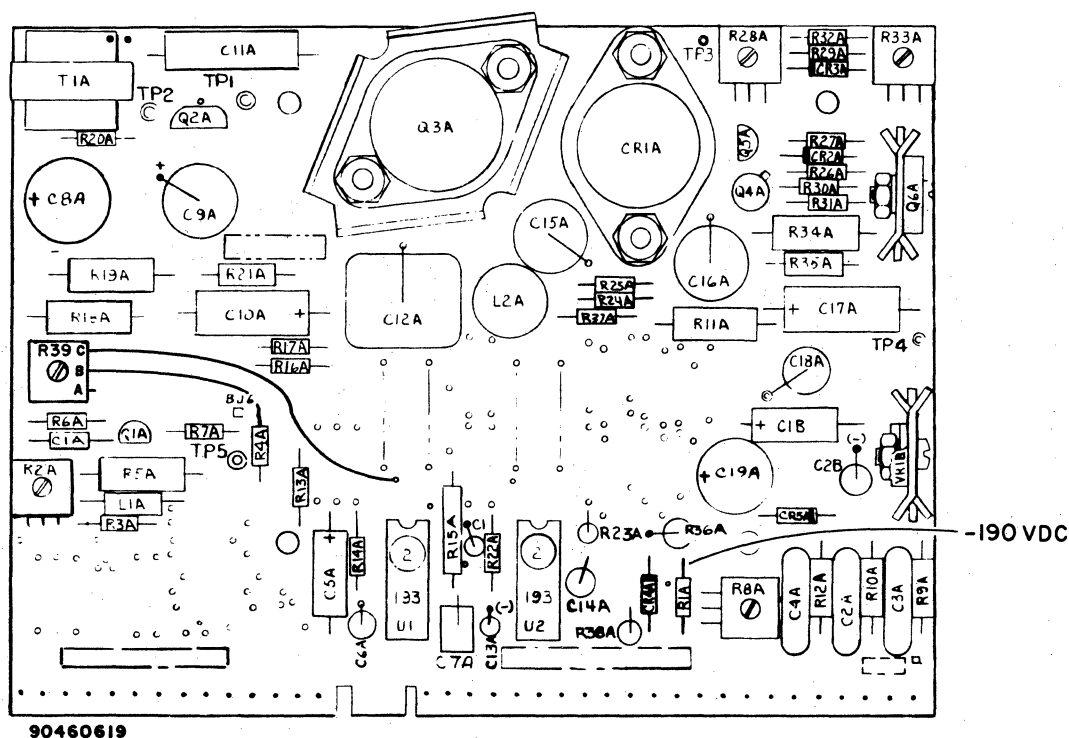

Figure CRT30. Test Point for -190-V dc
- 9) Connect negative (-) lead to R1A (figure CRT30).